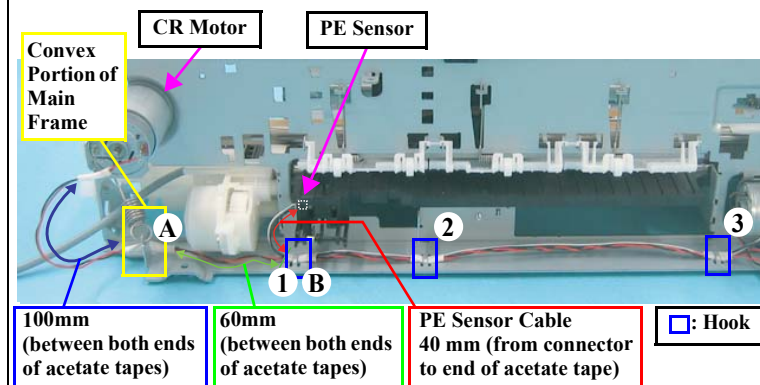

Figure 4-86. Routing the Cable
- When routing the CR Motor Cable and PE Sensor Cable, refer to Fig.4-86 and follow the steps below.
- Route the center of the acetate tape A behind the convex portion of the Main Frame, and secure the tied cables with the hook (1) at the center of the acetate tape B so that the CR Motor Cable faces toward you.
- Wrap the CR Motor Cable and PE Sensor Cable with acetate tapes (20 mm) at the positions of the hooks (2) (3), then secure the center of the acetate tapes with Hooks (2) (3).